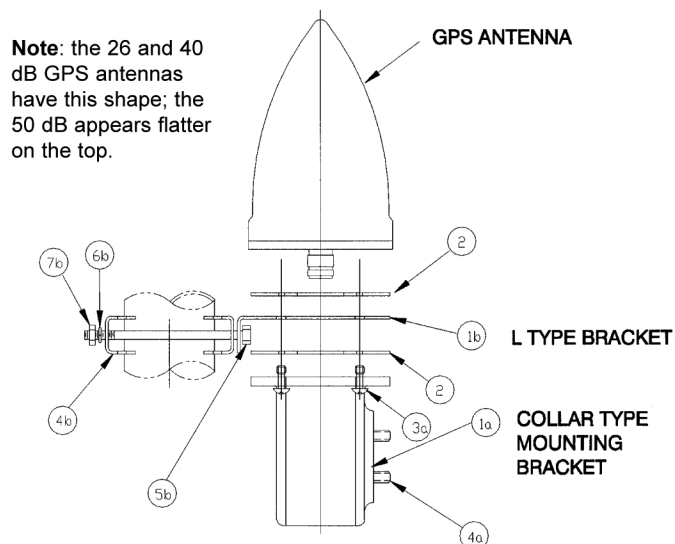
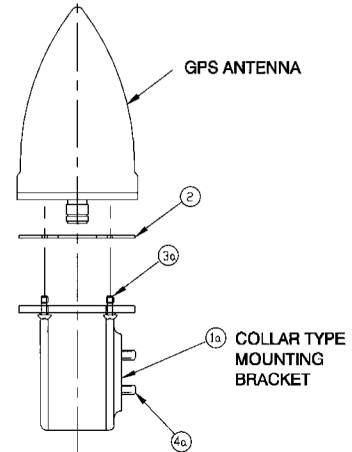
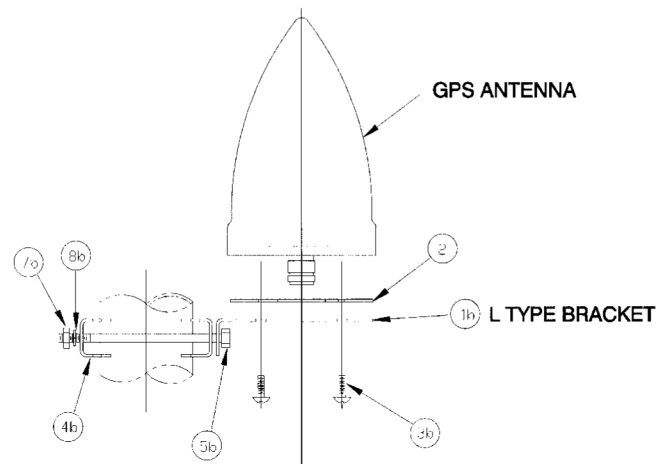

Figure 1: Standard Mount Assembly
Figure 2: Collar Bracket Mount Kit
Figure 3: L-Bracket Mount Kit
Refer to Figure 1. The Collar Bracket Mount Kit includes these parts:
Refer to Figure 1. The L-Bracket Mount Kit includes these parts:
**Note:** The Standard Mount Kit contains two mounting bracket types. The two brackets can be used together, as the Standard Mount Kit shown in Figure 1, separately as the Collar Bracket Mount Kit shown in Figure 2, or separately as the L-Bracket Mount Kit shown in Figure 3.
Refer to Figure 1.
Refer to Figure 2.